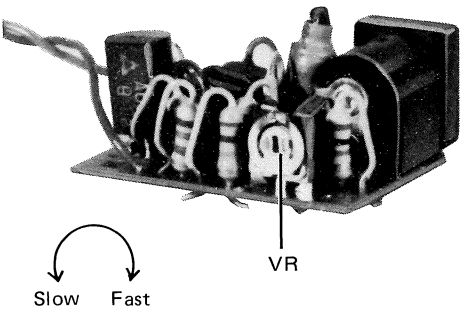

Fig. 16
- 3) While playing back a test 3kHz tape (VTT-656) for motor speed adjustment, adjust VR on the E governor board (see Fig. 16.) so that the frequency counter indicates within 2,970 to 3,060Hz.